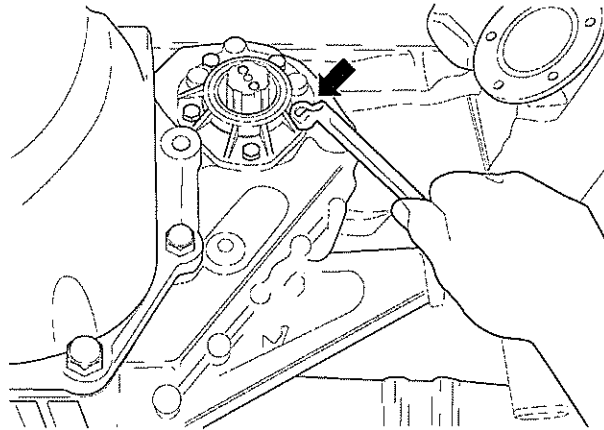

Fig 5 Transfer gearbox drive shaft cover
- 8.5 Remove drive flange cover and adjustment shim (see Fig 5).